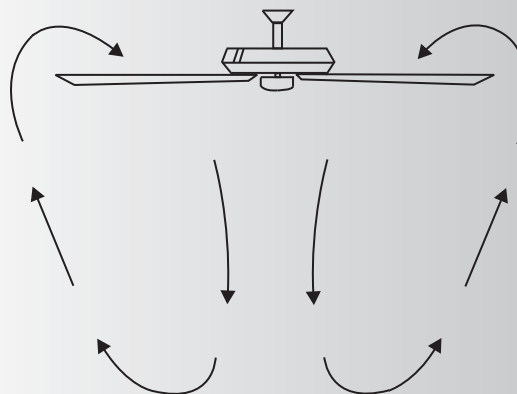

Fig. 18
1. While holding the light fixture under your ceiling fan, push the square wire connectors together. One from the fan and one from the light fixture. (Fig.18)
A downward airflow creates a cooling effect as shown in Fig. 18. This allows you to set your air conditioner on a warmer setting without affecting your comfort.